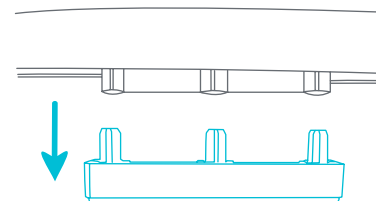

Fig. 14a
- **REMOVAL:** To remove, pull out the stopper (Fig. 14a).